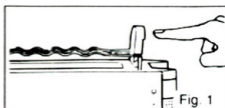

Fig. 1
2. Raise the warming rack - see fig. 1.